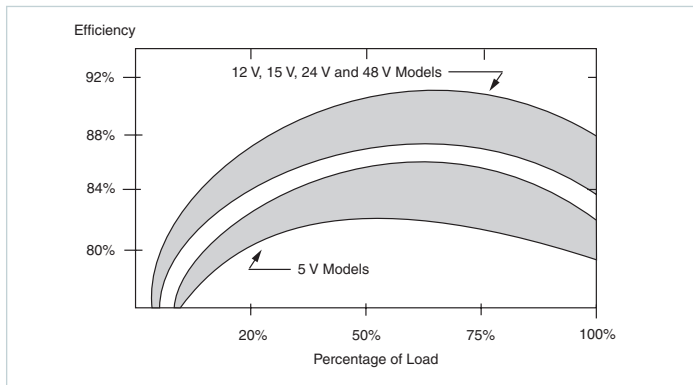

Figure 20.1a — Module efficiency
A DC-DC converter takes power from an input source and converts it into regulated output power for delivery to a load. Not all of the input power is converted to output power however; some is dissipated as heat within the converter. The ratio of delivered output power to converter input power is defined as the converter’s efficiency. Efficiency is a basic figure of merit that can be used to relate power dissipation directly to converter output power, as illustrated in Figures 20.1a and 20.1b.
1. Determine the power to be dissipated by the heat sink. This should be based upon converter efficiency and worst-case converter power output using the formula given in the section on Module Efficiency and Dissipated Power. (Figures 20.1a and 20.1b)